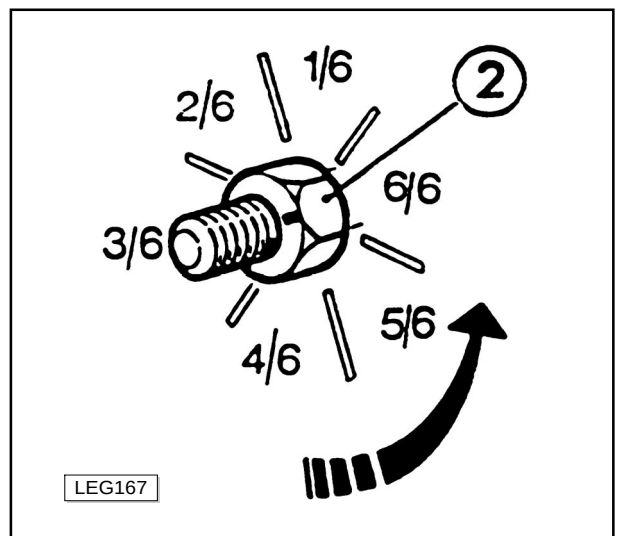
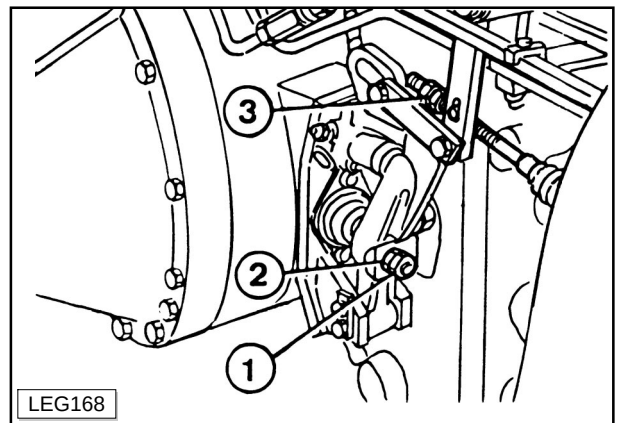

Fig.5-29
Fig.5-30
- 5 - Unscrew the check nut (1 - Fig. 5-30). Slowly tighten the adjuster nut (2 - Fig. 5-30) until you can no longer turn the wheel by hand.
- 6 - Make a reference mark on the adjuster nut and on the support, then slacken off the adjuster nut by 1 and 4/6ths of a turn (Fig. 5-29), i.e. until the wheel can be freely turned. Now lock the adjuster with the relative check nut (1 - Fig. 5-30).
Once you have adjusted the brake pedals, adjust the free travel of the parking brake by means of the adjuster nut (3 - Fig. 5-30) on the brake lever, so that the parking brake engages after 2 clicks of the ratchet mechanism.